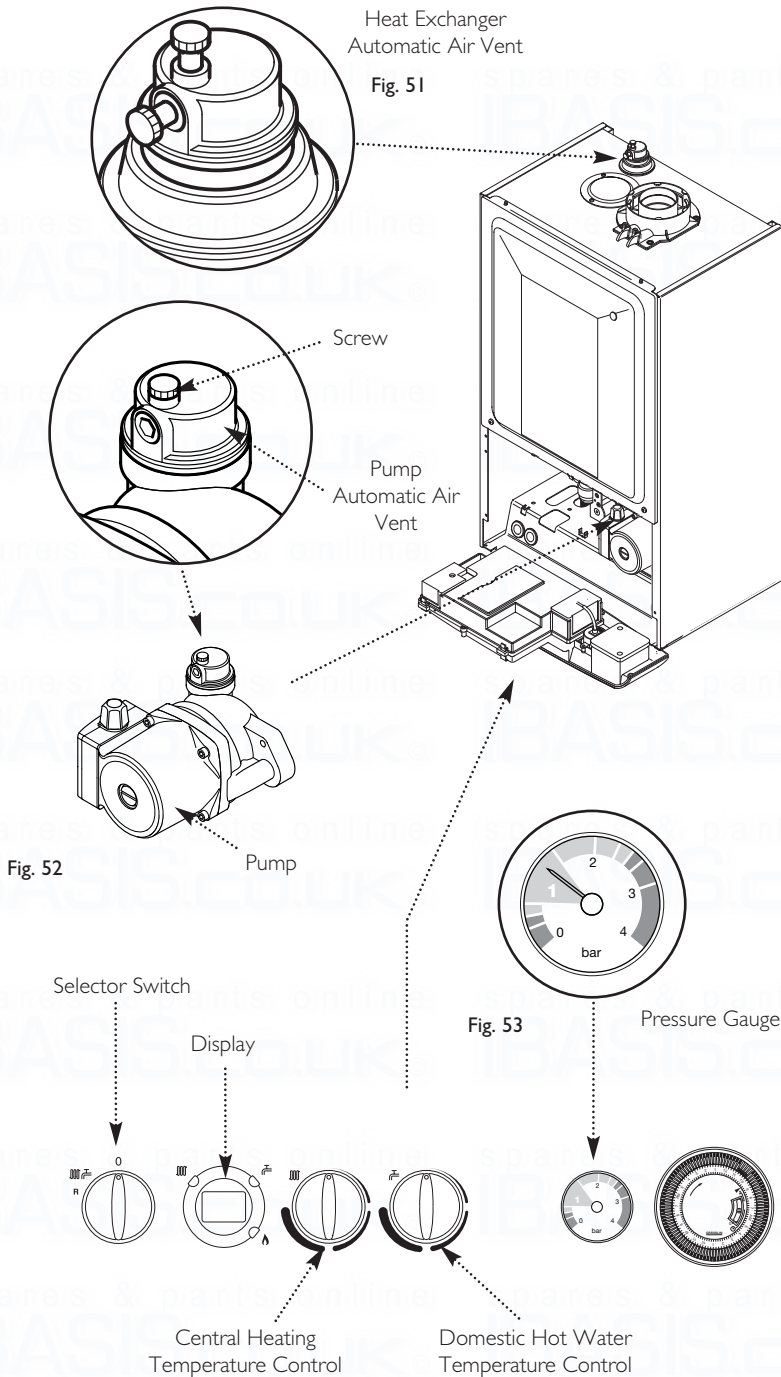

Fig. 54
12. Turning either of the temperature control knobs will set the relevant temperature. When the knob is turned the display will alter and show the selected temperature. After a few seconds the display reverts to show the current boiler temperature (Fig. 54).